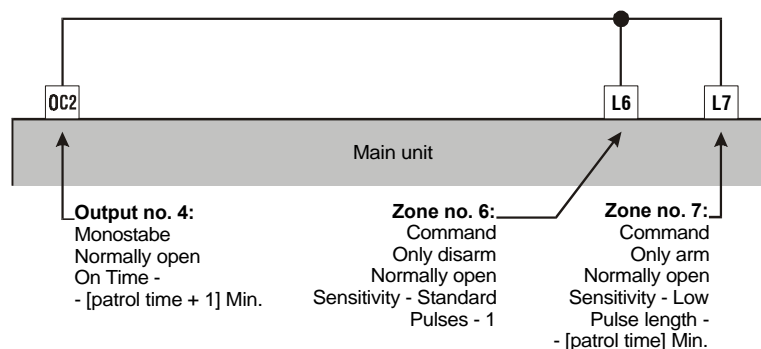

Figure 43 Temporary disarming (patrol)
- **Zones no. 6 and 7:** correspond to terminals [L6] and [L7] of the Main unit. Connect as per figure 43 and refer to the following programming instructions.